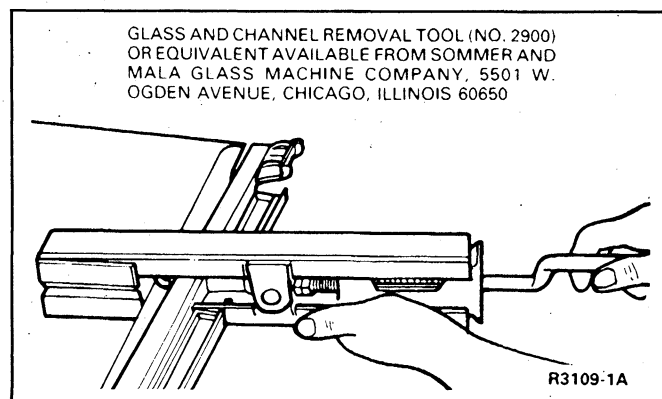

FIG. 1 Vent Glass Replacement
2. Push the glass from the glass frame using Glass and Channel Removal Tool 2900 or equivalent (Fig. 1).
2. Install the glass and new tape in the glass frame using Glass and Channel Removal Tool 2900 or equivalent (Fig. 1).